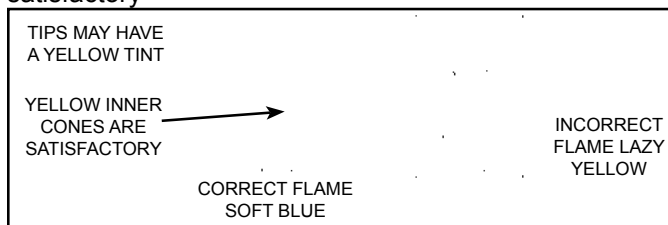
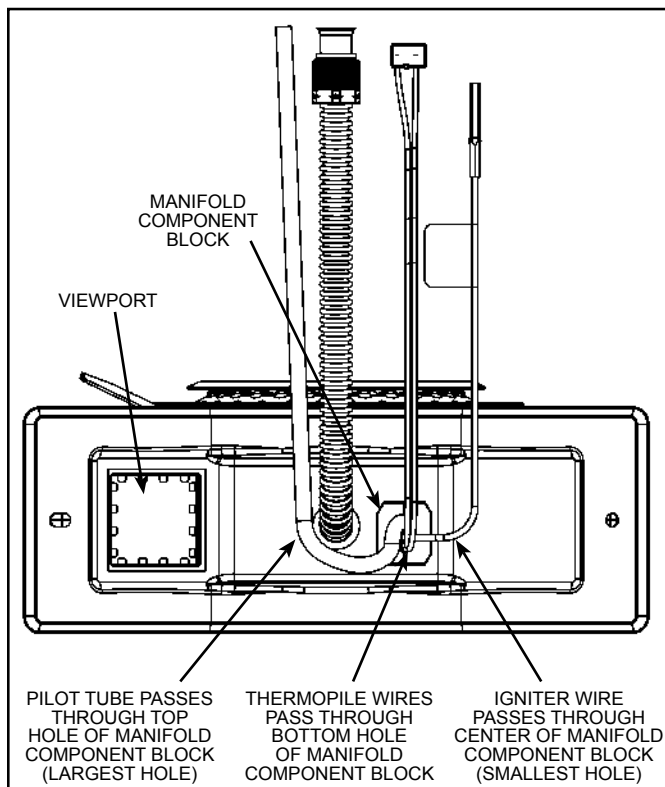

Figure 31
Figure 37
At least once a year a visual inspection should be made of the main burner and the pilot assembly for proper flame characteristics. This can be done by removing the Outer Door and viewing the main burner operation through the Viewport on the Inner Door (see Figure 37). The main burner should provide complete combustion of gas, ignite rapidly, give reasonably quiet operation, and cause no excessive flame lifting from the burner ports. If the proper flame characteristics are not evident (see Figure 31), make sure that the flow of combustion and ventilation air is not blocked in the venting system. You should also check for sooting. Soot is not normal and will impair proper combustion.
Inspect the burner flames through the viewport and compare them to the drawings in Figure 31. A properly operating burner should produce a soft blue flame. Blue tips with yellow inner cones are satisfactory. The tips of the flame may have a slight yellow tint. The flame should not be all yellow or have a sharp blue-orange colour. Contaminated air may cause an orange coloured flame. Contact a qualified service technician if the flame is not satisfactory.
9. Reinstall the manifold component block in the manifold door. Ensure that the pilot tube and wires are positioned as shown in Figure 37.